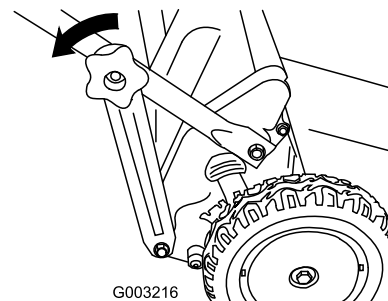

Figure 14
1. Remove the lower handle knobs that attach the handle brackets to the lower handle ends (Figure 14).